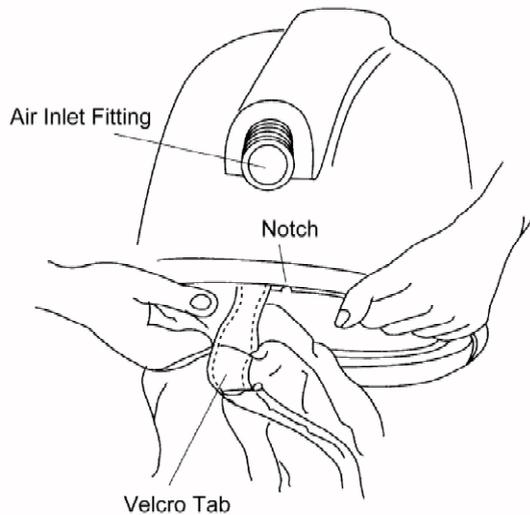

Figure 4: Detachment of Cape
(1) Open the Velcro Tabs on the cape	See Figure 4
(4) lose the Velcro tabs	See Figure 4